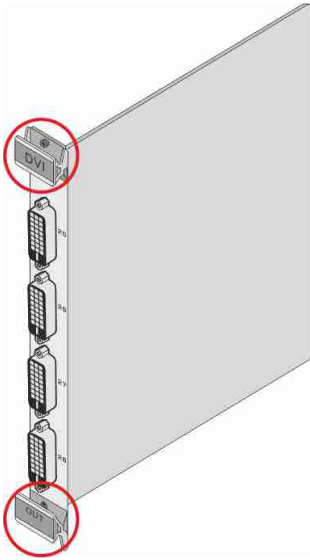

Figure 19: Card Handles
2. Using a Phillips screwdriver, loosen the screws at the top and bottom of the blanking plate (see Figure 19).
5. Holding the card by the upper and lower handles, align the card with the plastic guide rails (see Figure 19).